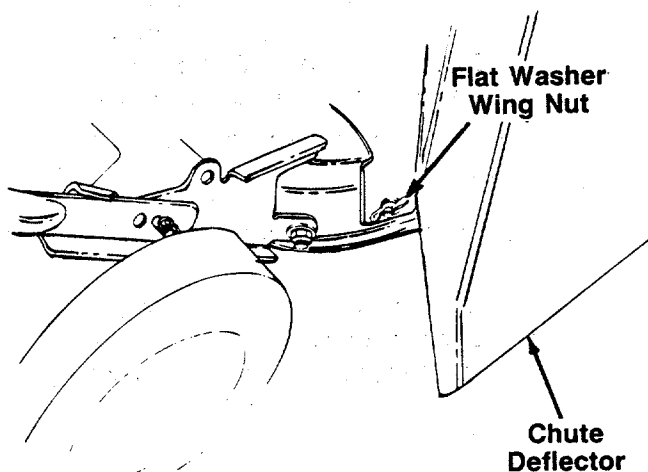

FIGURE 8.
3. Secure the back of the deflector in the same manner. See figure 8.